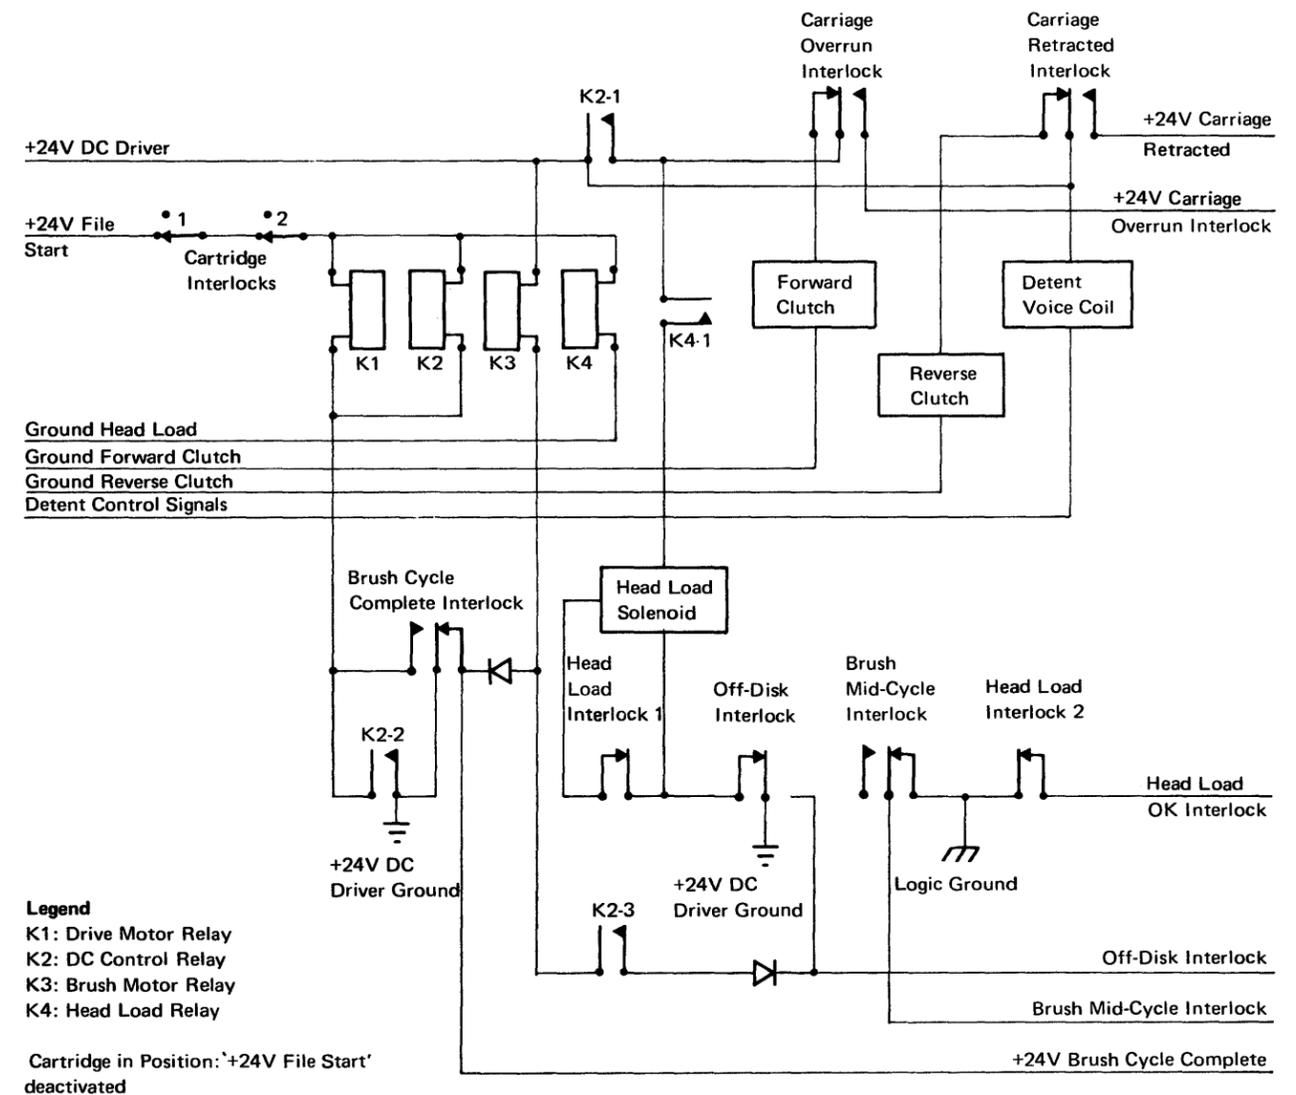

Figure 1-31. Interlock Switch Circuits [07491]
- The switch interlock circuits are shown in Figure 1-31.